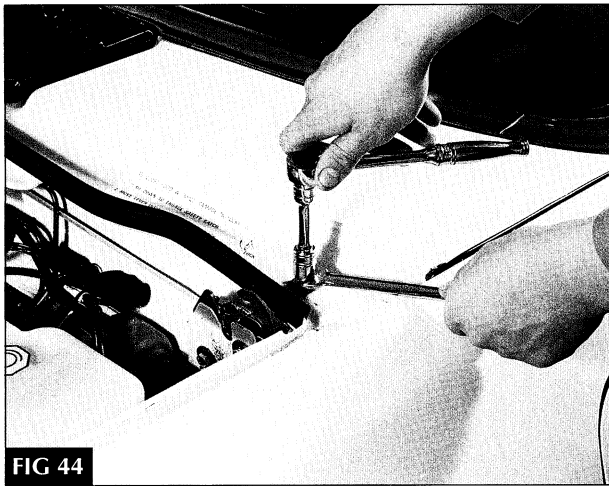

FIG 44
- 1 Adjust the two rear stops to set the hood rear edge height to match the fenders and the lower windshield panel [FIG 44].
- 5 Lower the two rear stops [FIG 44] so that they do not touch the hood.